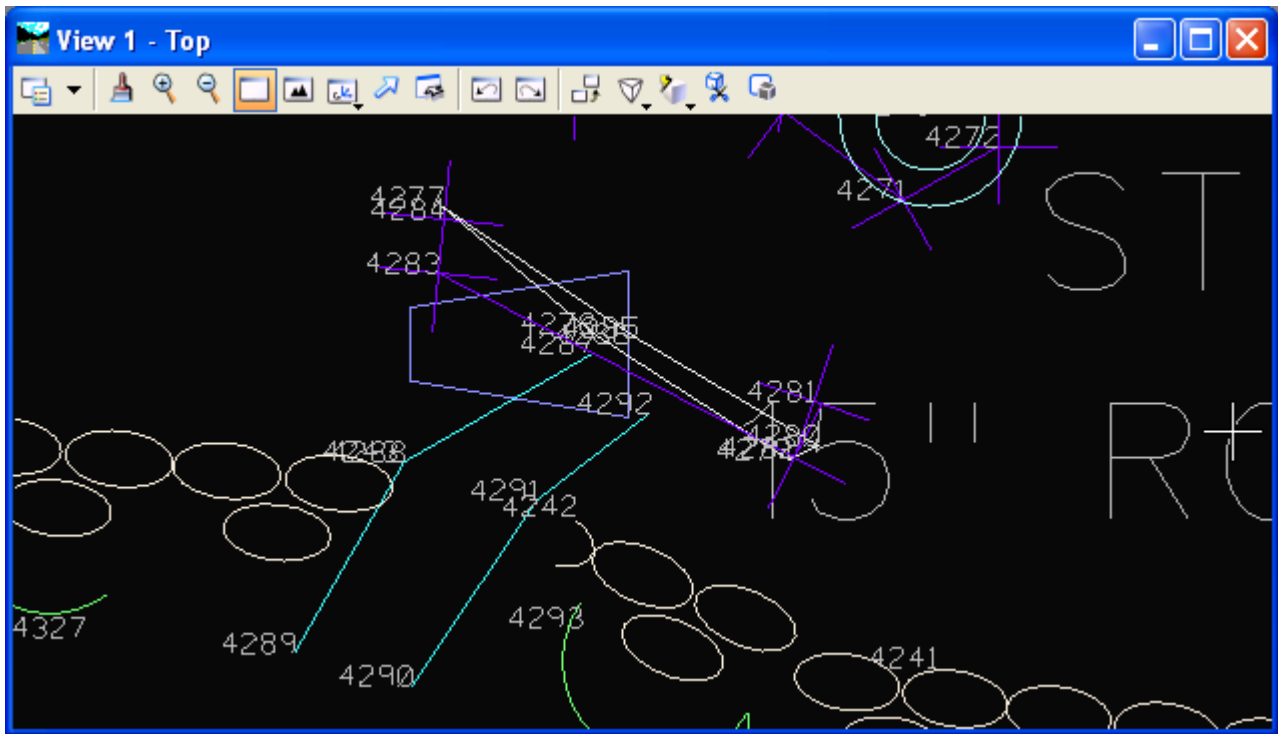

Figure 3-10 MicroStation View of corrected data
- J. Add ST to the code line and click **Apply** then select the next button this will take you to the next point where you will remove the ST and **Apply**. Notice Figure 3-10 the long line is gone and the channel is now displayed correctly.